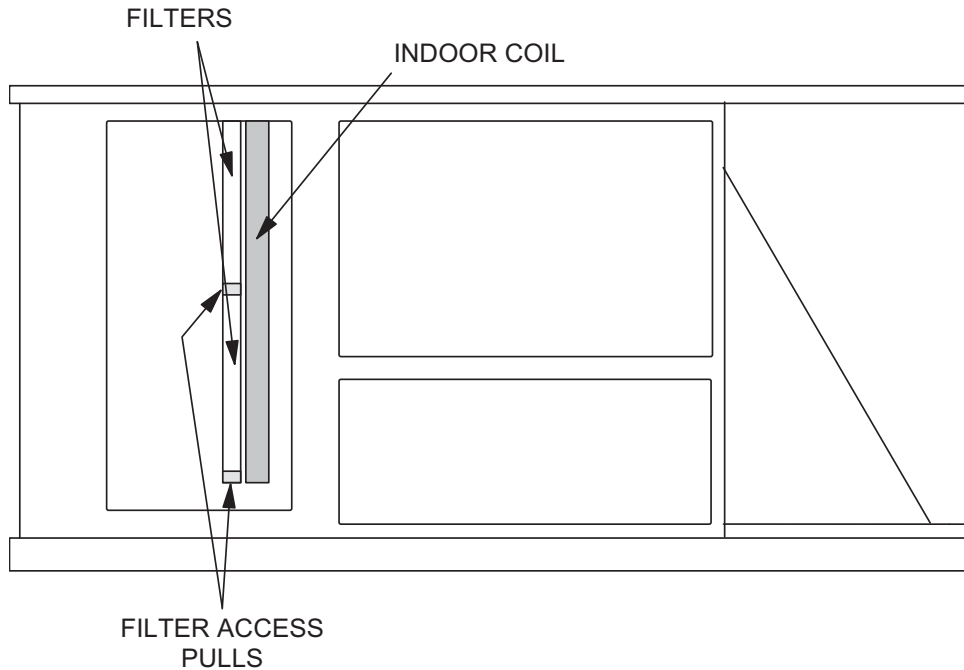

Figure 2- Filter access 3 thru 12.5 ton units
1. Remove the filter access panel, see Figure 2.